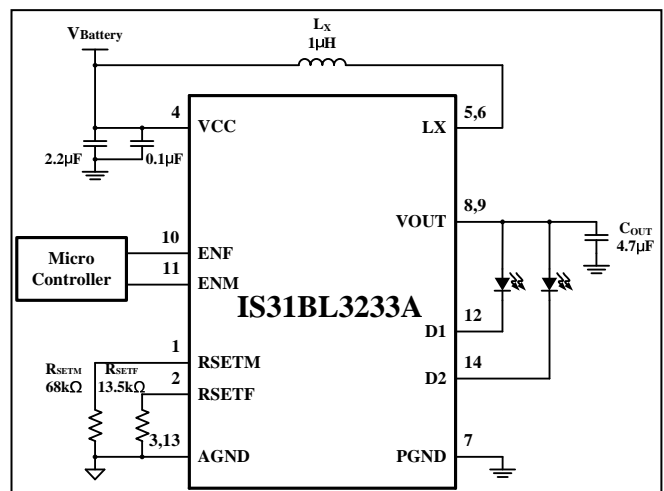

Figure 11 Single LED Application
Each of the sinks' (D1 and D2) current is regulated and matched for applications requiring two LEDs. For single LED applications, D1 and D2 can be connected together to drive one LED (see Figure 11). The current per sink follows the Equations (1) and (2) in Current Setting sections above.